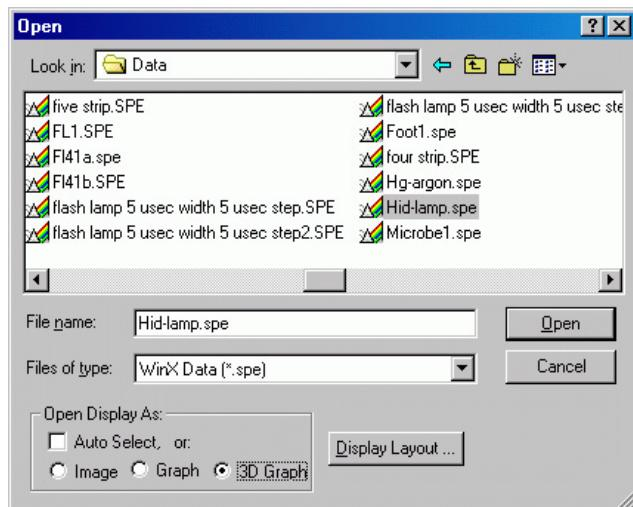

Figure 76. Open dialog
- From the File menu select **Open**. The Open dialog (Figure 76) will appear, allowing you to select the image to be opened. The Look-In box provides a browser function so that the directory where the images are located can be easily accessed. By default the data directory is a subdirectory of the WinSpec program directory. Files of the specified type (the WinSpec/32 data type is \*.spe) in the current directory and any subdirectories are listed in the box below the directory name.